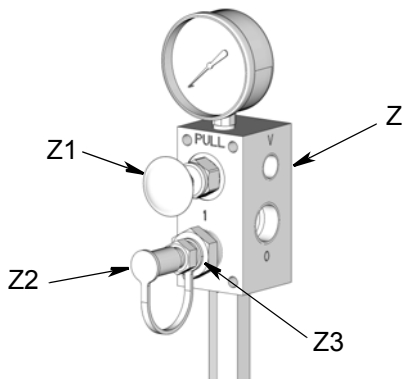

FIG. 13
1. Prior to starting the fill, pull out and hold black pressure relief knob (Z1) long enough to relieve line pressure between fill valve (Z) (FIG. 13) and Auto-Fill Shut Off (S).
3. Remove the yellow dust cover (Z2) from fill coupler (Z3) (FIG. 13, page 14).
4. Connect the refilling line (D) between the remote filling station pump (P) and fill coupler (Z3) port marked with an "I" (FIG. 13, page 14).
5. Start the remote filling station pump (P).
6. When reservoir (K) is filled:
- the remote filling station pump (P) stalls (dead-heads),